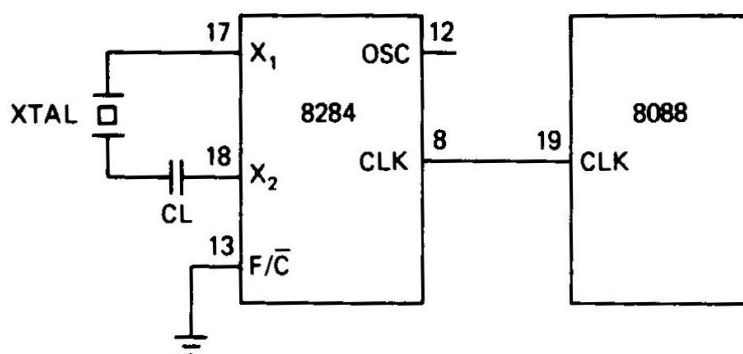

Figure 8-11 Connecting the 8284 to the 8086. (Reprinted with permission of Intel Corporation, © 1979)
- For **8086**, we connect either a **15-, 24- or 30-MHz crystal** between inputs **X₁** and **X₂** inputs of the clock chip (see Fig. 8-11). The *fundamental crystal frequency* is **divided by 3** within the 8284 to give either a **5-, 8- or 10-MHz** clock signal, which is directly connected to the CLK input of the 8086.